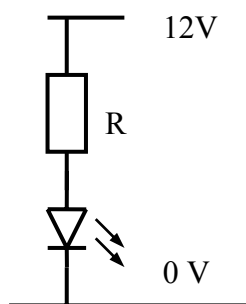

Fig 9 (a)
- 9 (a) An LED designed to work at a forward voltage of 2 volts at a current of 20mA is to be connected to a 12 volt supply is shown in **Fig 9 (a)**.